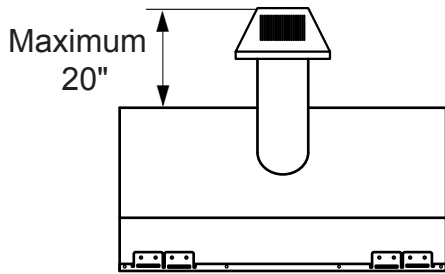
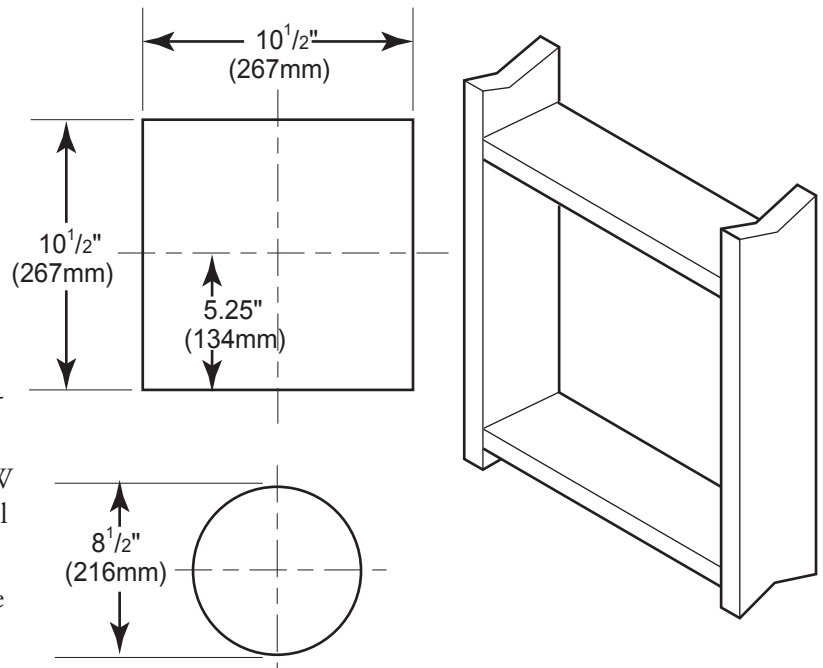
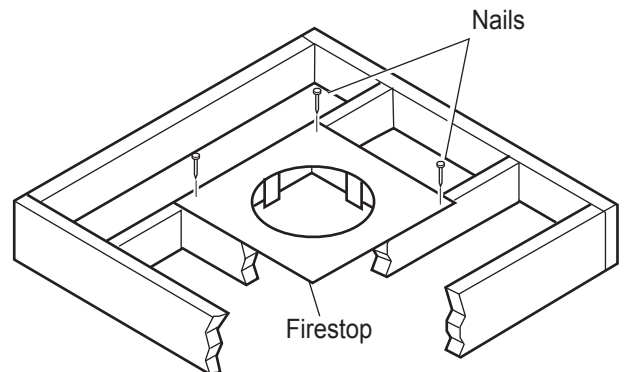
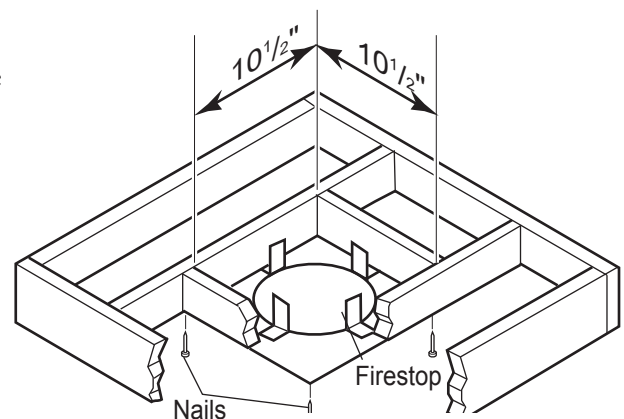

Figure 11 - Rear Vent Application, Maximum Horizontal Distance
Figure 12 - Vent Opening Requirements
Figure 28- If area above is a room, install firestop above framed hole as shown
Figure 29 - If area above is not a room, install firestop below framed hole as shown
The maximum horizontal distance between the rear of the appliance and the outside of termination is 20" (508 mm). See Figure 11.
1. Locate and cut the vent opening in the wall. For combustible walls first frame in opening. See Figure 11.
Combustible Walls: Cut a 10½"H x 10½" W (267mm x 267mm) hole through the exterior wall and frame as shown. See Figure 12.
3. Attach vent pipe assembly to the fireplace. Set fireplace in front of its permanent location to insure minimum clearances. Mark the wall for a 10½"H x 10½"W (241mm x 241mm) square hole (for noncombustible material such as masonry block or concrete, a 8½" [216mm] diameter hole is acceptable). See Figure 11. The center of the hole should line up with the center line of the horizontal rigid vent pipe end. Be sure to allow for minimum rise. Cut a 10-1/2"x10-1/2" (267mm X 267mm) square hole through combustible exterior wall (8½" [216mm] diameter hole if noncombustible). Frame as necessary. Allow ¼" minimum rise per foot. See Figure 12.
1. Establish vent hole through the wall. *See Figure 12, page 17.*
1. Cut a $10\frac{1}{2}$ " (267mm) square hole in the ceiling using the locating hole as a center point. The opening should be framed to $10\frac{1}{2}$ "x $10\frac{1}{2}$ " (267mm x 267mm) inside dimensions as shown in Figure 12, page 17 using framing lumber the same size as the ceiling joist. If the area above the ceiling is an insulated ceiling or a room, nail firestop from the top side. This prevents loose insulation from falling into the required clearance space. See Figure 28. Otherwise, install firestop below the framed hole. The firestop should be installed with no less than three nails per side. See Figure 29.